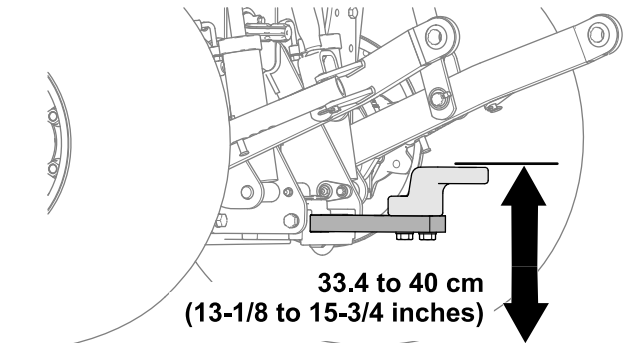

Figure 27
- Working height: 33.4 to 40 cm (13-1/8 to 15-3/4 inches); refer to Figure 27.